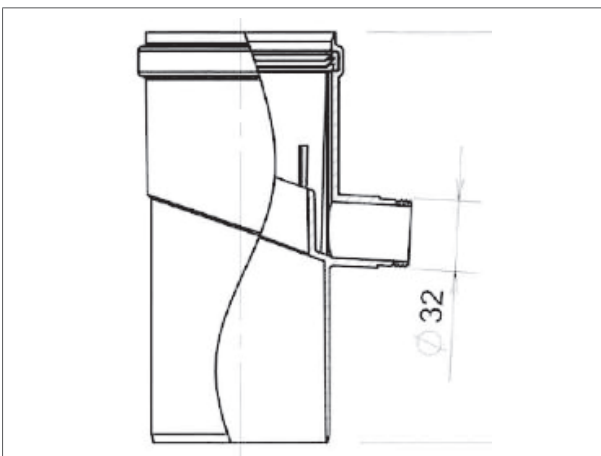

Figure 17 - Condensate drain
- Add a condensate drain (figure 17).